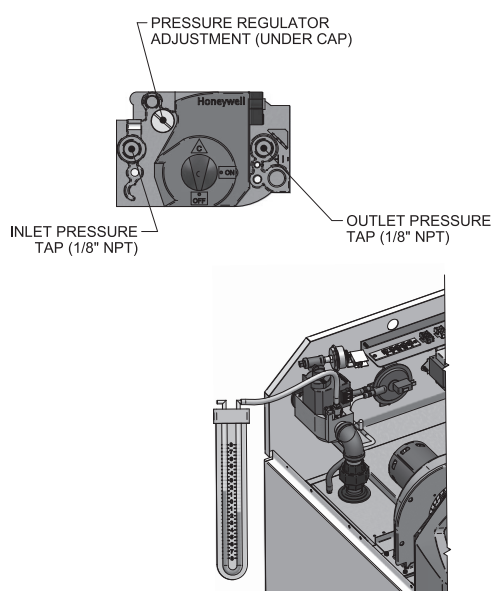

Figure 3-2_Manifold Gas Pressure Measurement
10. Remove the 1/8" hex plug, located on the "outlet" side of the gas valve and install a fitting suitable to connect to a manometer or magnahelic gauge (see FIG. 3-2). Minimum range of scale should be up to 5" w.c. for natural gas and 10" w.c. for propane gas.
17. If adjustment is necessary, remove the regulator cover screw on the gas valve (FIG. 3-2).
Revision C (ECO C02134) reflects the revision of Figure 3-2 on Page 28.